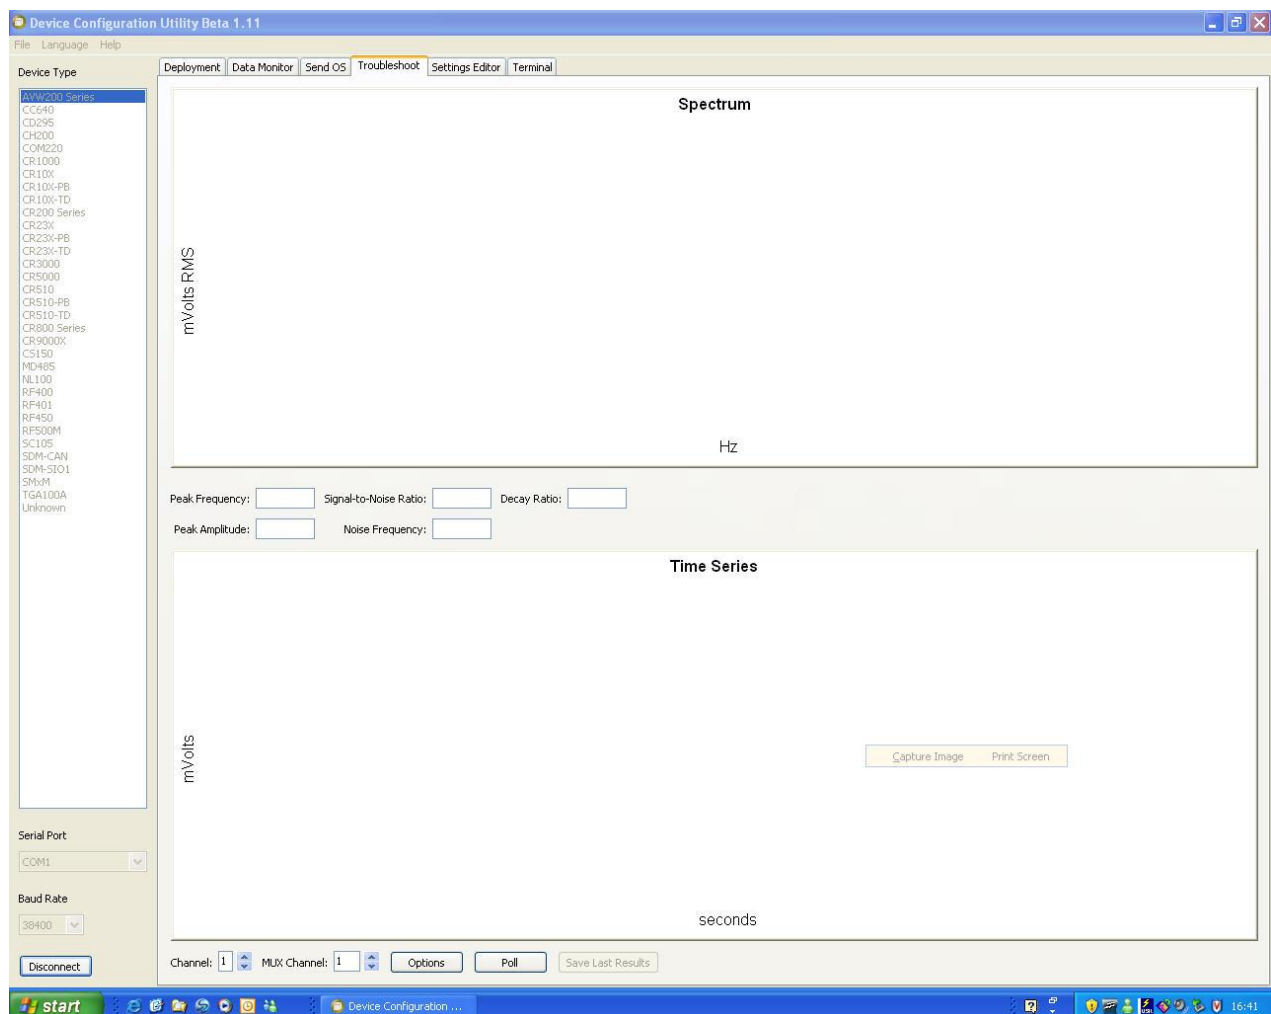

Figure 5.5-1. Opening Page of the Troubleshoot Tool
2. Click the Troubleshoot tab at the top of the DevConfig opening window (Figure 5.5-1)